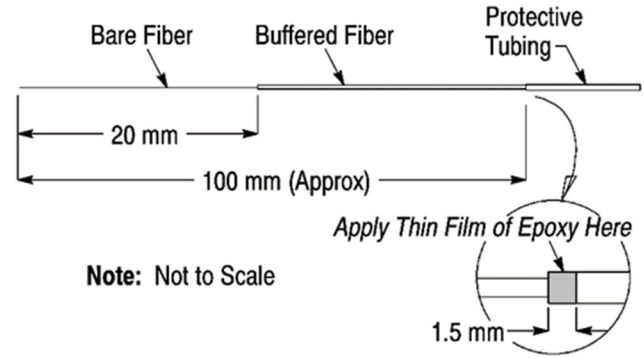

Figure 3
g. Using the fiber stripping tool, strip the buffered fiber to the dimension shown in Figure 3, exposing the bare fiber. Using a lint-free tissue or cloth dampened with isopropyl alcohol or acetone, clean the bare fiber.
j. Apply a *thin film* of epoxy around the outside edge of the protective tubing to the width given in Figure 3.